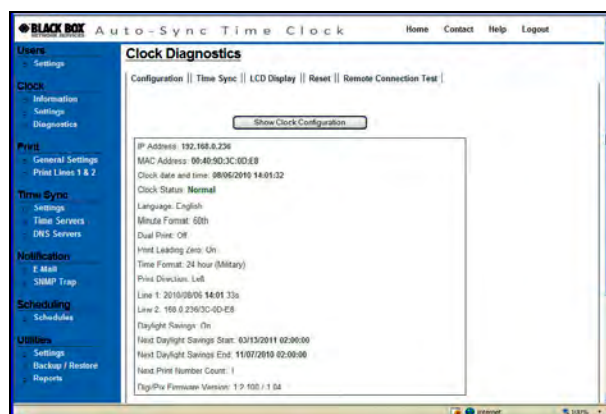

Figure 6-1. Show Clock Configuration.
2. Click on the  button to display the Web clock configuration information (see Figure 6-1).
**NOTE:** This information is read only (non-editable) and displays the clock settings, plus the current status of the clock. Any clock errors such as **E4 Prt** printing error would appear in **red** on this screen (see Figure 6-1).